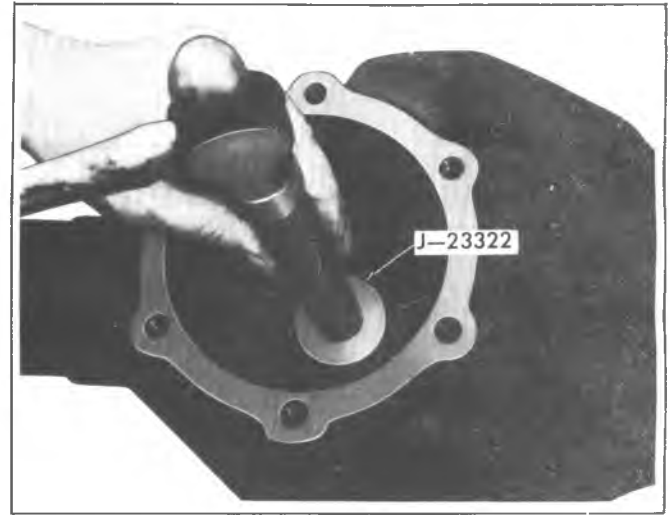

Fig. 14E-Installing Straddle Bearing
4. Install the pinion straddle bearing into the carrier housing, using driver handle J-8092 and installer J-23322, as shown in figure 14E.